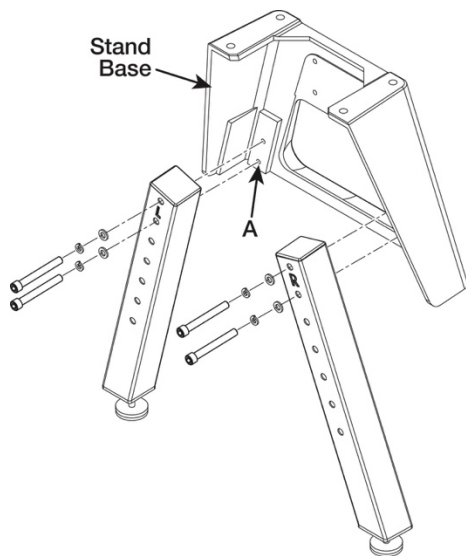

Figure 6-5
2. Lay the stand base sections flat with the inside portion facing up. There are two threaded mounting holes on each side for attaching the legs (A, Figure 6-5).
3. Be sure to use the same two mounting holes on each leg to keep the lathe level. Attach each leg to stand base using two bolts with washers and lock washers (see Figure 6-5). Tighten bolts firmly.
⚠ WARNING **Install the legs correctly.** Make sure the legs are oriented as shown in Figure 6-5 with the levelers sitting flat on the floor. The legs are side-specific and are marked with either “L” (left) or “R” (right). Installing the legs incorrectly can make the lathe unstable.